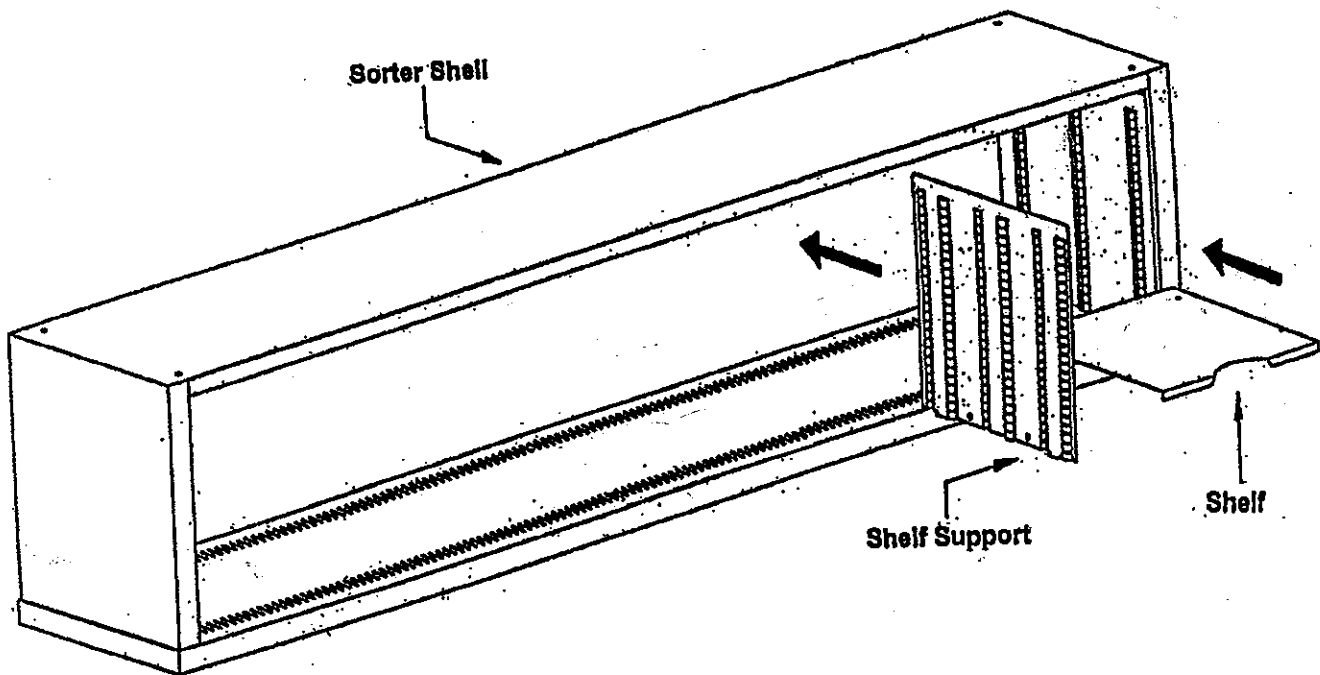

Figure 6
- A) Determine where the first Shelf Support will be positioned by sliding a Shelf into either the left or right side of the Sorter Shell. **Note: You can work from left to right or right to left when assembling this unit (See Fig. 6).**